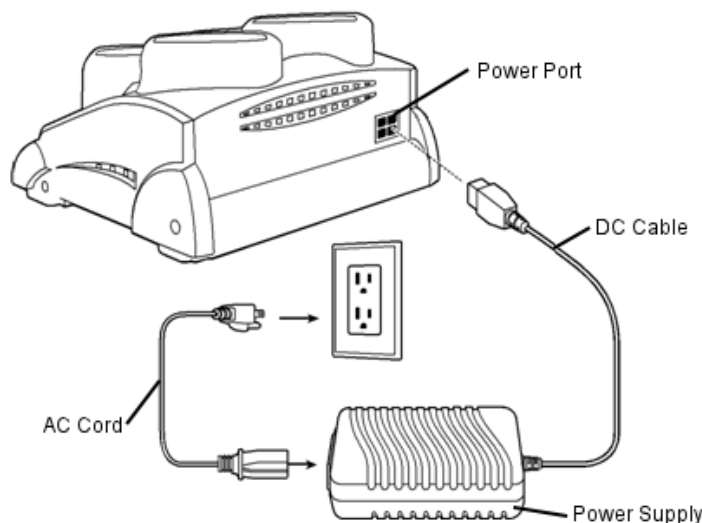

Figure 3-16 Four Slot Spare Battery Charger Power Connection
1. Connect the charger to a power source as shown in Figure 3-16.